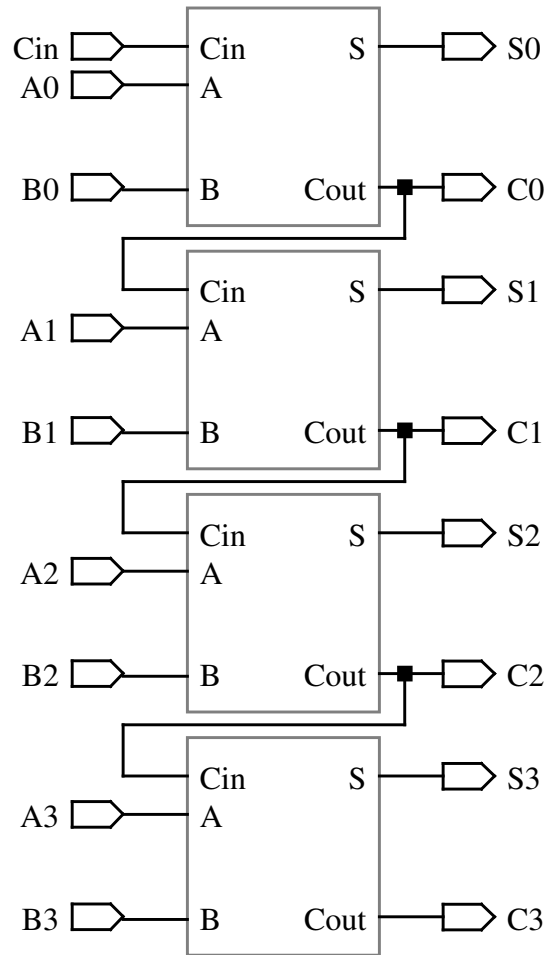

Figure 3 Four-Bit Ripple Adder
1. Use Design Architect to build a 4-bit ripple adder by cascading together four of the full adder cells you just created as shown in Fig. 3 on the next page. Use the *Choose Symbol* button on the schematic palette to retrieve your full adder symbol. Your full adder symbol may be slightly different from the ones in the diagram, so be careful that your connections are consistent with those in Fig. 3. Generate a Sheet Plot of the complete 4-bit adder.